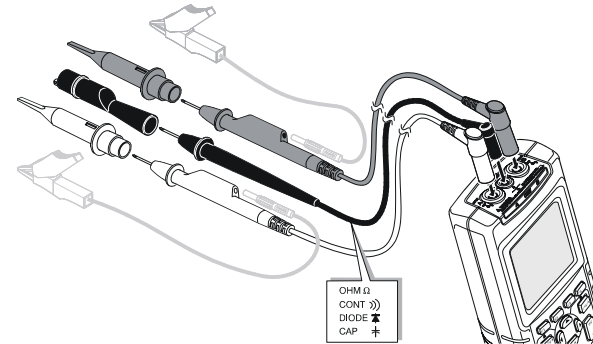

Figure 1-7. Measurement Setup
- First connect the red shielded test lead from input A, and the gray shielded test lead from input B to the signals to be measured. Connect the short ground leads to the same ground potential. (See Figure 1-7.)
For Ohm ( $\Omega$ ), continuity, diode, and capacitance measurements, use the red shielded test lead from input A and the black unshielded ground lead from COM (common). (See Figure 1-7.)